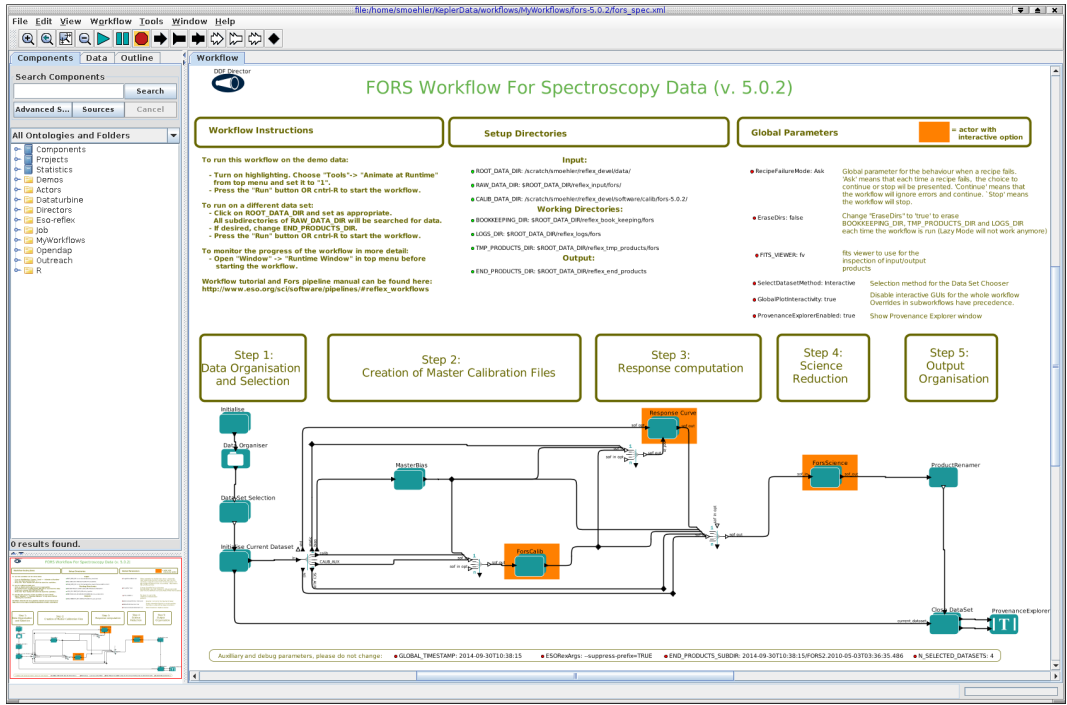

Figure 4.2: *FORS2 workflow general layout.*
2. Now open the FORS2 workflow by clicking on **File** -> **Open File**, selecting first `fors-5.2.1` and then the file `fors_spec.xml` in the file browser. You will be presented with the workflow canvas shown in Figure 4.2. Note that the workflow will appear as a canvas in a new window.